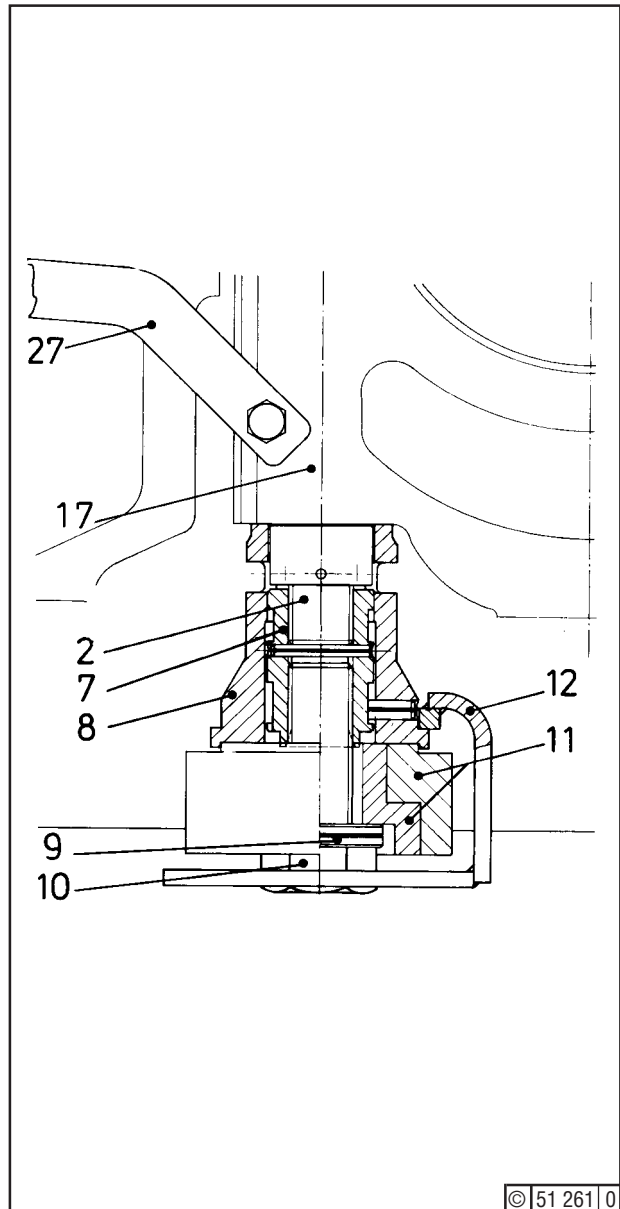

Fig. 3
Apply motor oil to threads of studs (2), and check that nuts (4) turn easily over the entire thread length. Install cap (17) with the aid of lever (27) - Fig. 3 - and screw nuts (4) in place hand-tight.
Fill two hydraulic tools with oil (job 02.16.02). Screw clamping nuts (7) - Fig. 3 - onto studs (2) as far as they will go. Fit clamping bushes (8) on clamping nuts (7). Slip retainer (12) over bushes (8). Install tools (11) and screw together by hex. bolts (10) and washers (9) until pistons are flush with cylinder ends.